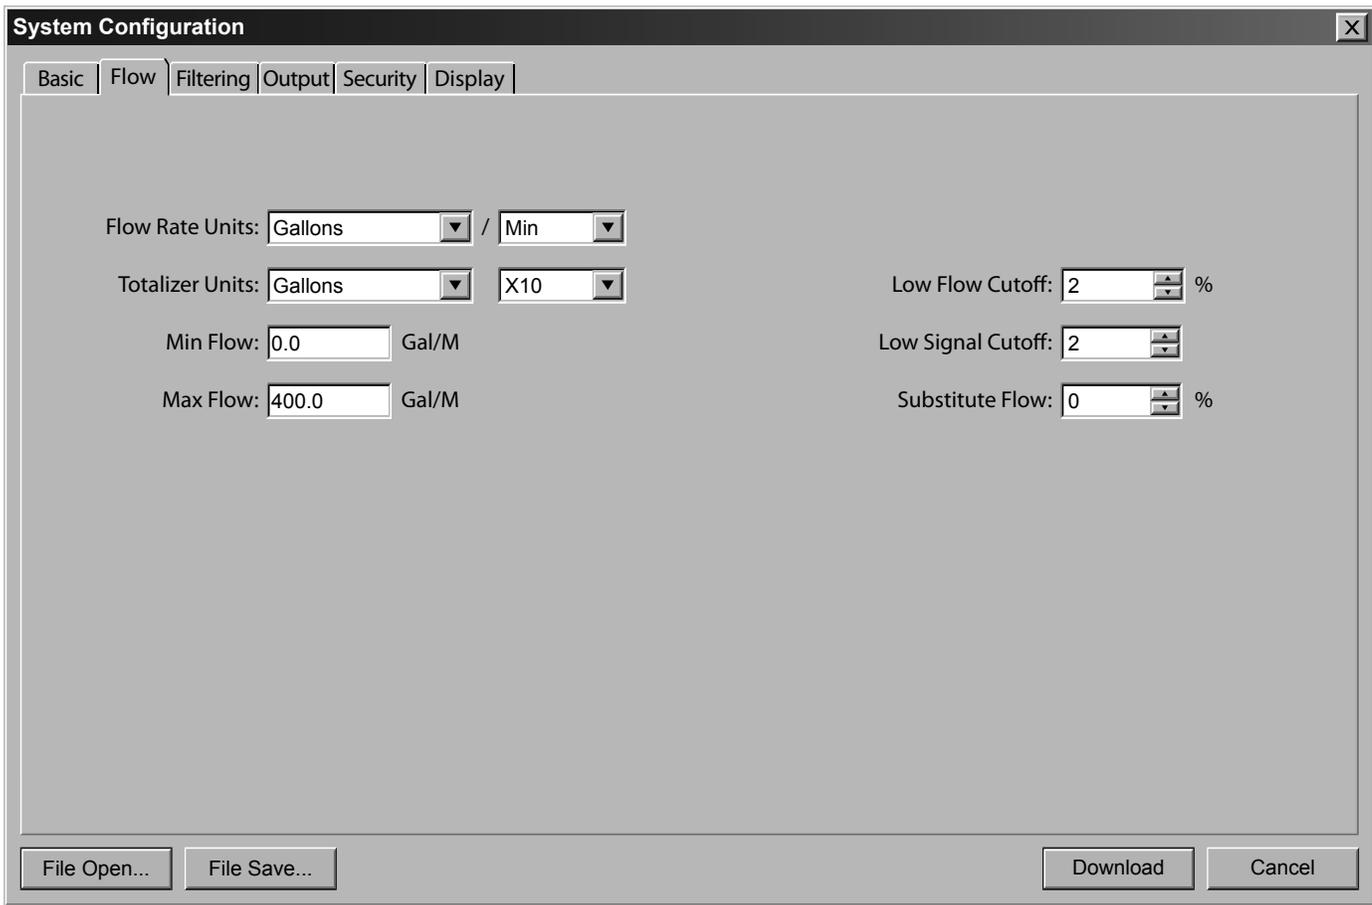

FIGURE 5.3 - FLOW TAB
- 2) Double-click on the *ULTRALINK™* icon. The first screen is the "RUN" mode screen (see **Figure 5.3**),